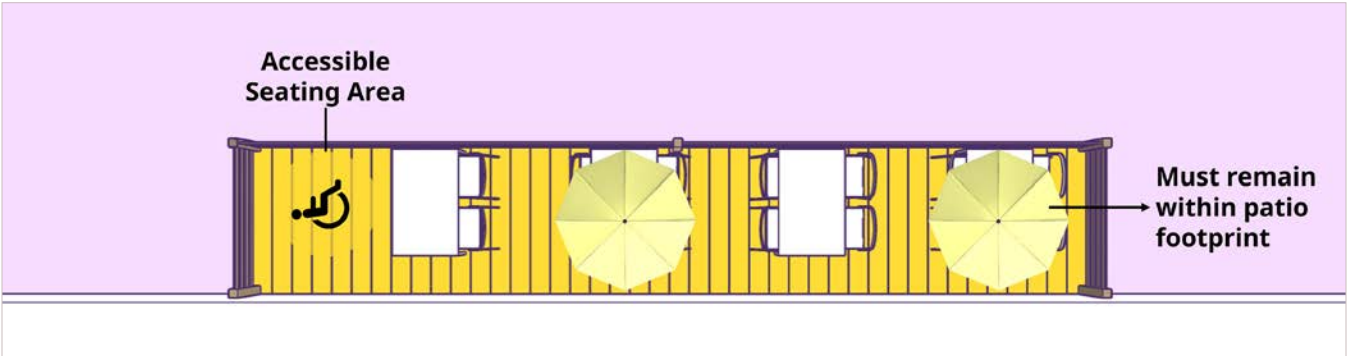

Figure 33: Umbrellas within patio footprint
- Must be installed entirely within the patio footprint and must not extend over sidewalks or roadway. (see Figure 33).